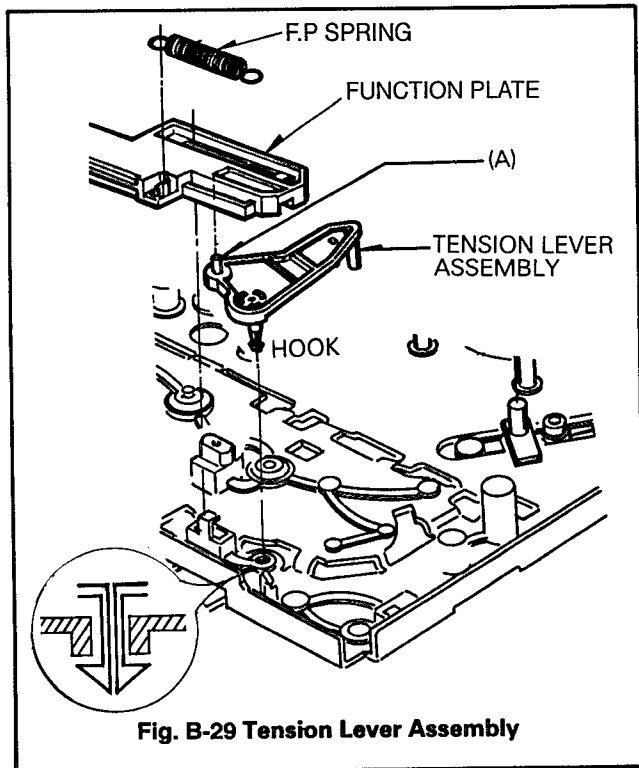

Fig. B-29 Tension Lever Assembly
- 1) When reassembling, the groove of Lower part of Function Plate should be aligned with the shaft of Tension Lever Assembly (Fig. B-29).
### 29. Tension Lever Assembly (Fig. B-29)